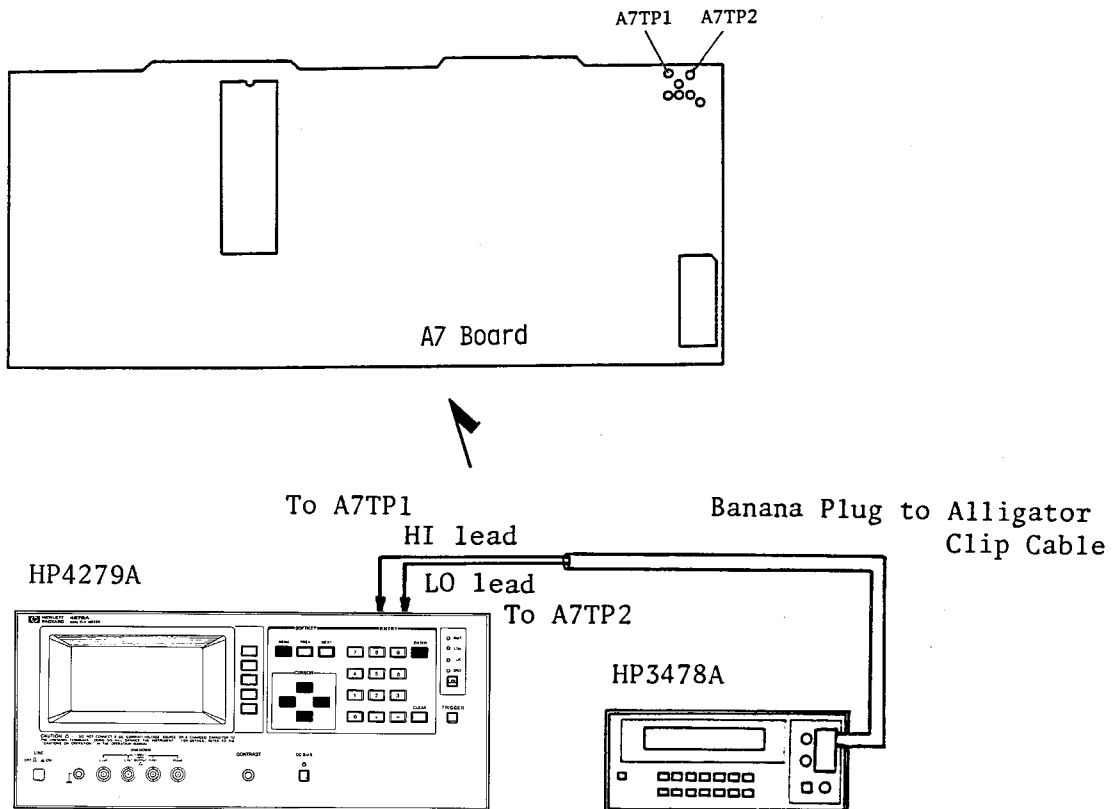

Figure 1-5. Power Supply Voltage Adjustment Setup
1. Connect the 11002A to the 3478A's INPUT. Figure 1-5 shows the equipment setup.
3. Connect the LO lead of the 3478A to A7TP2 and the HI lead to A7TP1 as shown in Figure 1-5.